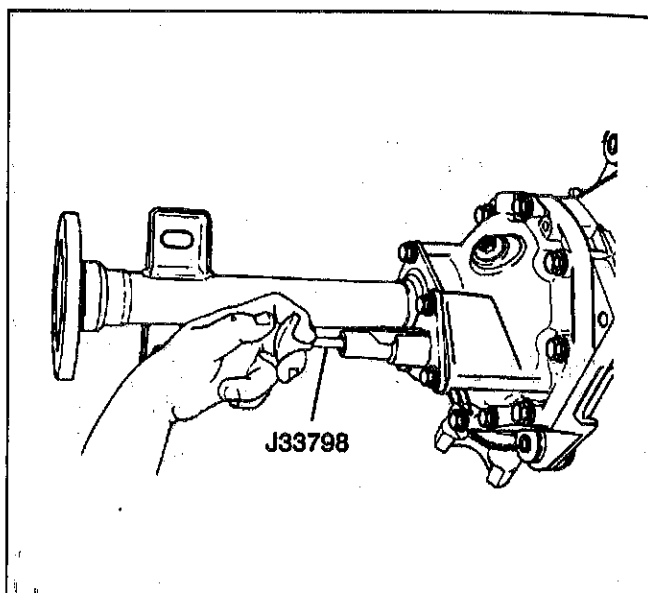

Figure 11—Checking the Shift Mechanism
- Operation of shift mechanism. Use J 33798 (Figure 11). Insert the tool into the shift fork and check for rotation of the axle shaft.